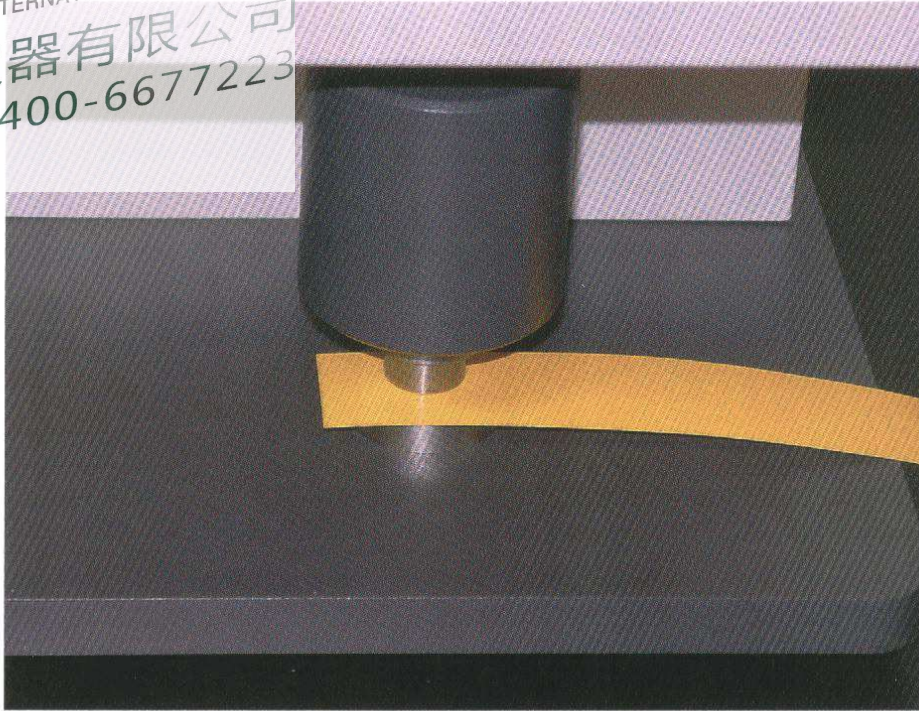

Figure 1. Tape sample being tested for thickness in micrometer.
4.1 Thickness gauge capable of estimating the thickness to within 0.002 mm. See Figure 1.